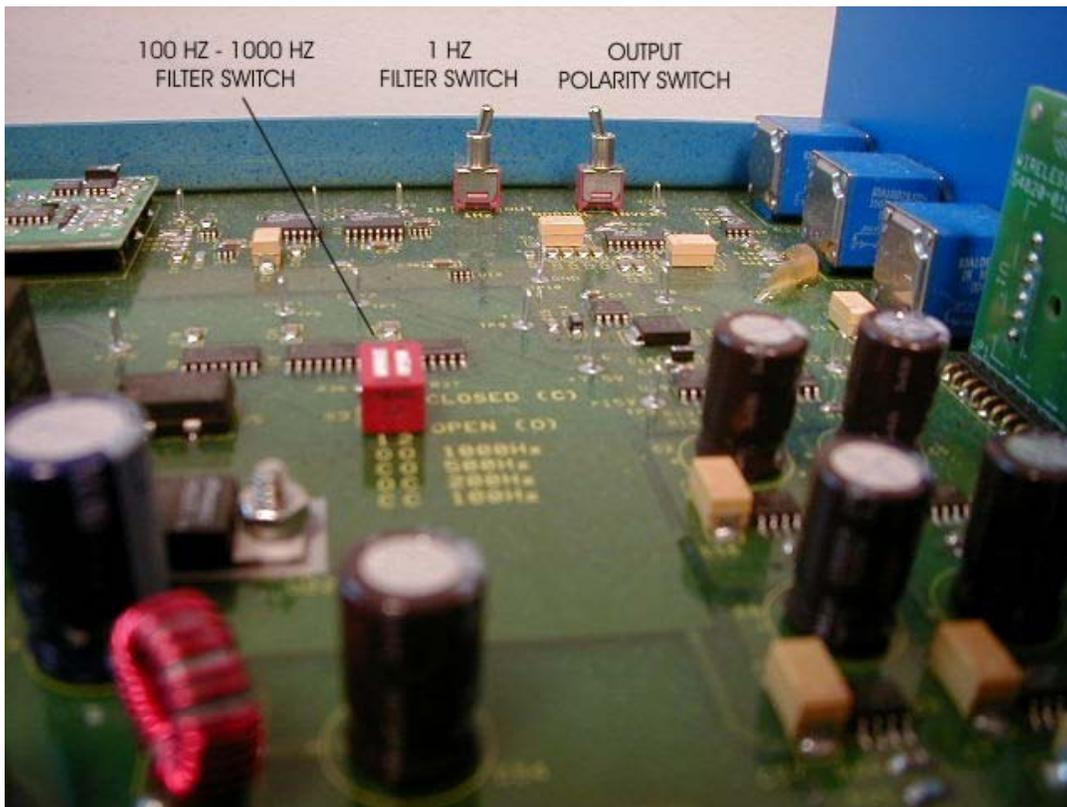

Figure 2-4. Internal View of Data Telemetry Receiver Showing Polarity Reversal, and Filter Switches
Figure 2-4 shows the data telemetry receiver with the cover removed exposing the analog data output polarity reversal switch, and a multi-position switch used to change the data output filtering. A switch for inserting a decimal point is located on the back of display board.
The Model 2145A Data Telemetry Receiver interior features are shown in Figure 2-4. The cover is removed by unscrewing the four (4) top corner screws.
The analog data output polarity reversal switch allows for correction of sensor mis-wiring errors negating the need for tearing the sensor apart when a data control unit can only tolerate one direction signal polarity. For applications where data response of less than 1,000 HZ is allowable, a multi-position switch allows for filter settings to 100 HZ. A switch for 1 HZ filtering is also provided. See Figure 2-4. A decimal point for the display's engineering units can be inserted using the switch on the back of the display board.